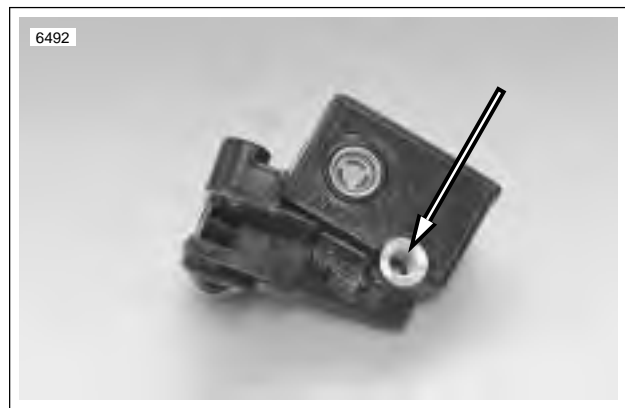

Figure 2-32. Master Cylinder Body Outlet Port
4. See Figure 2-32. Inspect outlet port that mates with brake line fitting. As a critical sealing surface, replace housing if any scratches, dents or other damage is noted.